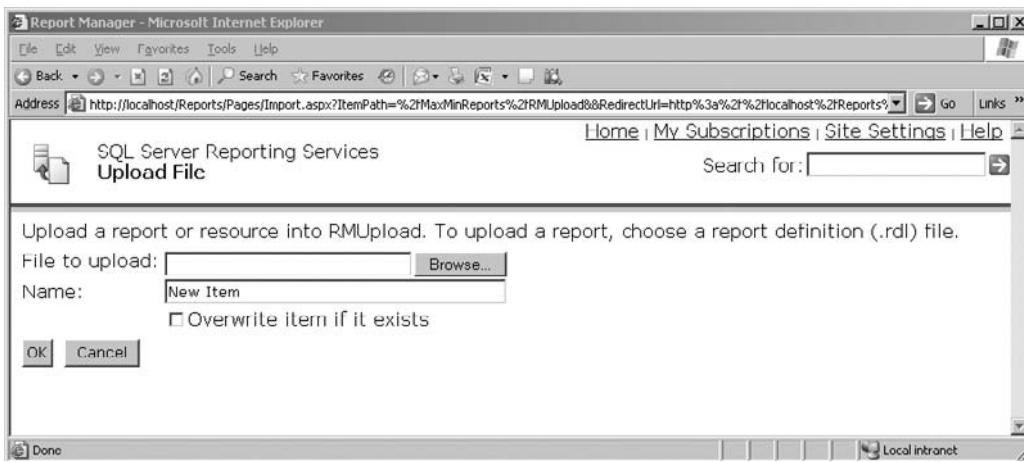

Figure 17-3 The Upload File page
7. Click the Upload File button on the toolbar on the Contents tab. The Upload File page appears, as shown in Figure 17-3.